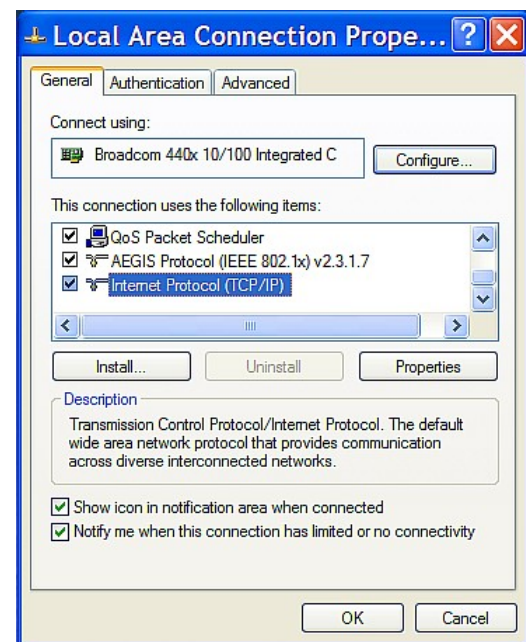

Figure 2.3d- Local Area Connection Properties
3. Right click on the icon labeled Local Area Connection. In the menu that follows, select the option at the bottom of the menu labeled Properties. The Local Area Connection Properties window will appear (Figure 2.3d).